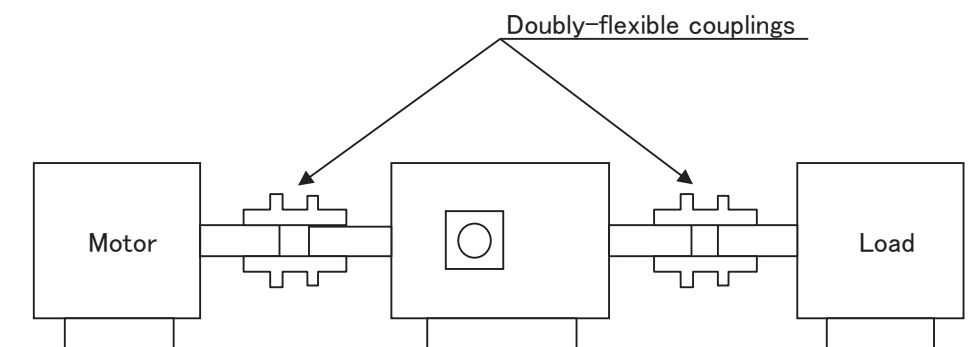

Fig.1 Installation on Mounting Leg
- (1) If your torque transducer is TMBN, it is most desirable to connect the shaft to the motor and to the load by using doubly-flexible couplings. It is not recommended to use a rigid shaft coupling. The reason is that centering is difficult and possible decentering results in an unfavorable large load to the bearing. (Refer to Fig.1.)
- (2) Use singly-flexible coupling when there is angular deviation only and no decentering. And use doubly-flexible couplings if there are both decentering and angular deviation.
- (3) If you do not use flexible couplings, take sufficient care to perform exact centering between the torque transducer and the motor. Keep run-out of shaft less than 30 micron.
- (4) Please follow the direction of setting by the arrow mark on name plate.